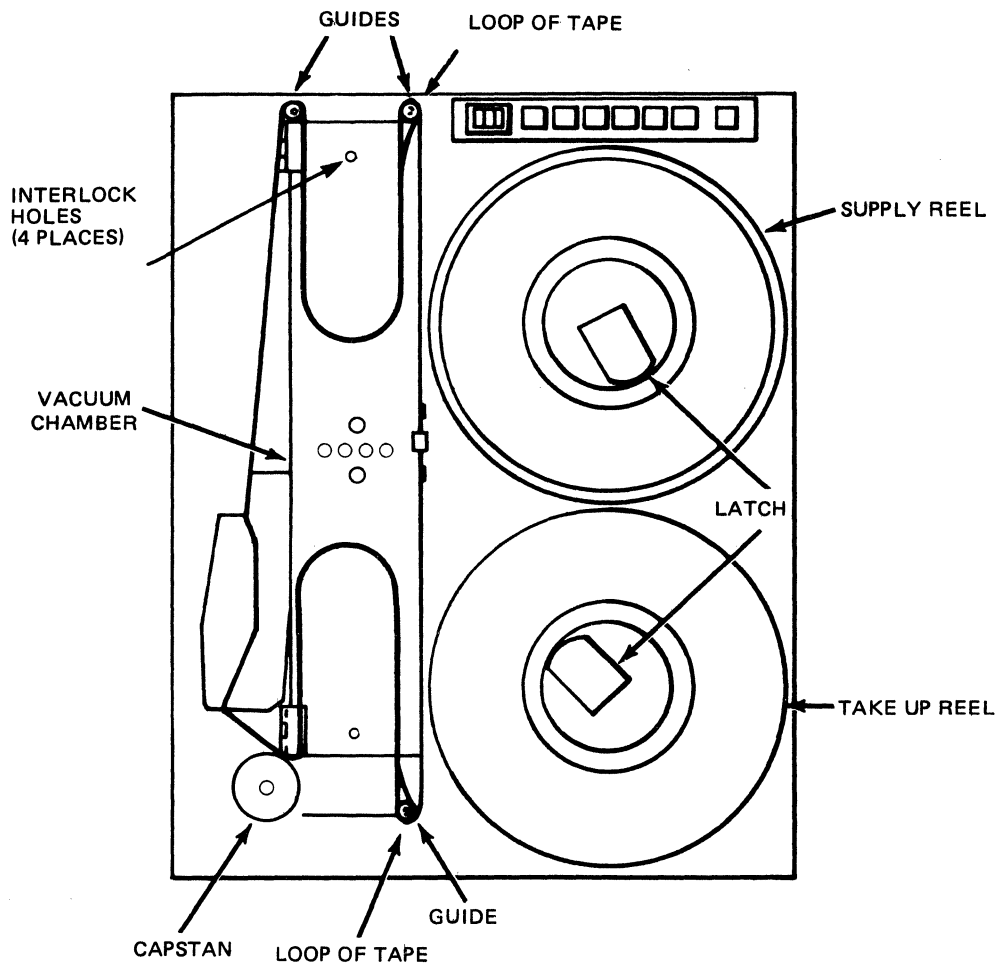

Figure 5-4. Tape Loop For Vacuum Column Servo Adjustment
- b. Remove the head covers. Load a loop of tape in the vacuum column as shown in figure 5-4.